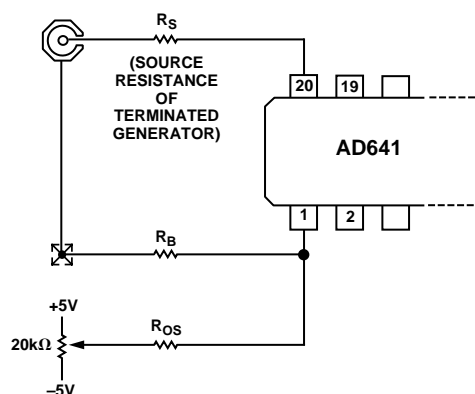

Figure 25. Optional Input Offset Voltage Nulling Circuit; See Text for Component Values
In most applications there will be no need to use any offset adjustment. However, a general offset trimming circuit is shown in Figure 25. R_S is the source resistance of the signal. *Note: 50 Ω rf sources may include a blocking capacitor and have no dc path to ground, or may be transformer coupled and have a near zero resistance to ground.* Determine whether the source resistance is zero, 25 Ω or 50 Ω (with the generator terminated in 50 Ω) to find the correct value of bias compensating resistor, R_B , which should optimally be equal to R_S , unless $R_S = 0$, in which case use $R_B = 5$ Ω . The value of R_{OS} should be set to 20,000 R_B to provide a ± 250 μV trim range. To null the offset, set the source voltage to zero and use a DVM to observe the logarithmic output voltage. Recall that the LOG OUT current of the AD641 exhibits an *absolute value response* to the input voltage, so the offset potentiometer is adjusted to the point where the logarithmic output "turns around" (reaches a local maximum or minimum).
R4 is identical to R2, and in shunt with R3 ($270\ \Omega$ thin film) forms a $27\ \Omega$ resistor with the same TC as the output resistance of the attenuator. By connecting Pin 1 to ATN LOW (Pin 2) this resistance minimizes the offset caused by bias currents. The offset nulling scheme shown in Figure 25 may still be used, with the external resistor R_B omitted and $R_{OS} = 500\text{ k}\Omega$. Offset stability is improved because the compensating voltage introduced at Pin 20 is now PTAT. Drifts of under $1\ \mu\text{V}/^\circ\text{C}$ (referred to Pins 1 and 20) can be maintained using the attenuator.
Cascaded AD641s can be used in dc applications, but input offset voltage will limit the dynamic range. The dc intercept is 6 μ V. *The offset should not be confused with the intercept*, which is found by *extrapolating* the transfer function from its central “log linear” region. This can be understood by referring to Equation (1) and noting that an input offset is simply additive to the value of V_{IN} in the numerator of the logarithmic argument; it does not affect the denominator (or intercept) V_X . In dc coupled applications of wide dynamic range, special precautions must be taken to null the input offset and minimize drift due to input bias offset. It is recommended that the input attenuator be used, providing a practical input range of -74 dBV (± 200 μ V dc) to $+6$ dBV (± 2 V dc) when nulled using the adjustment circuit shown in Figure 25.